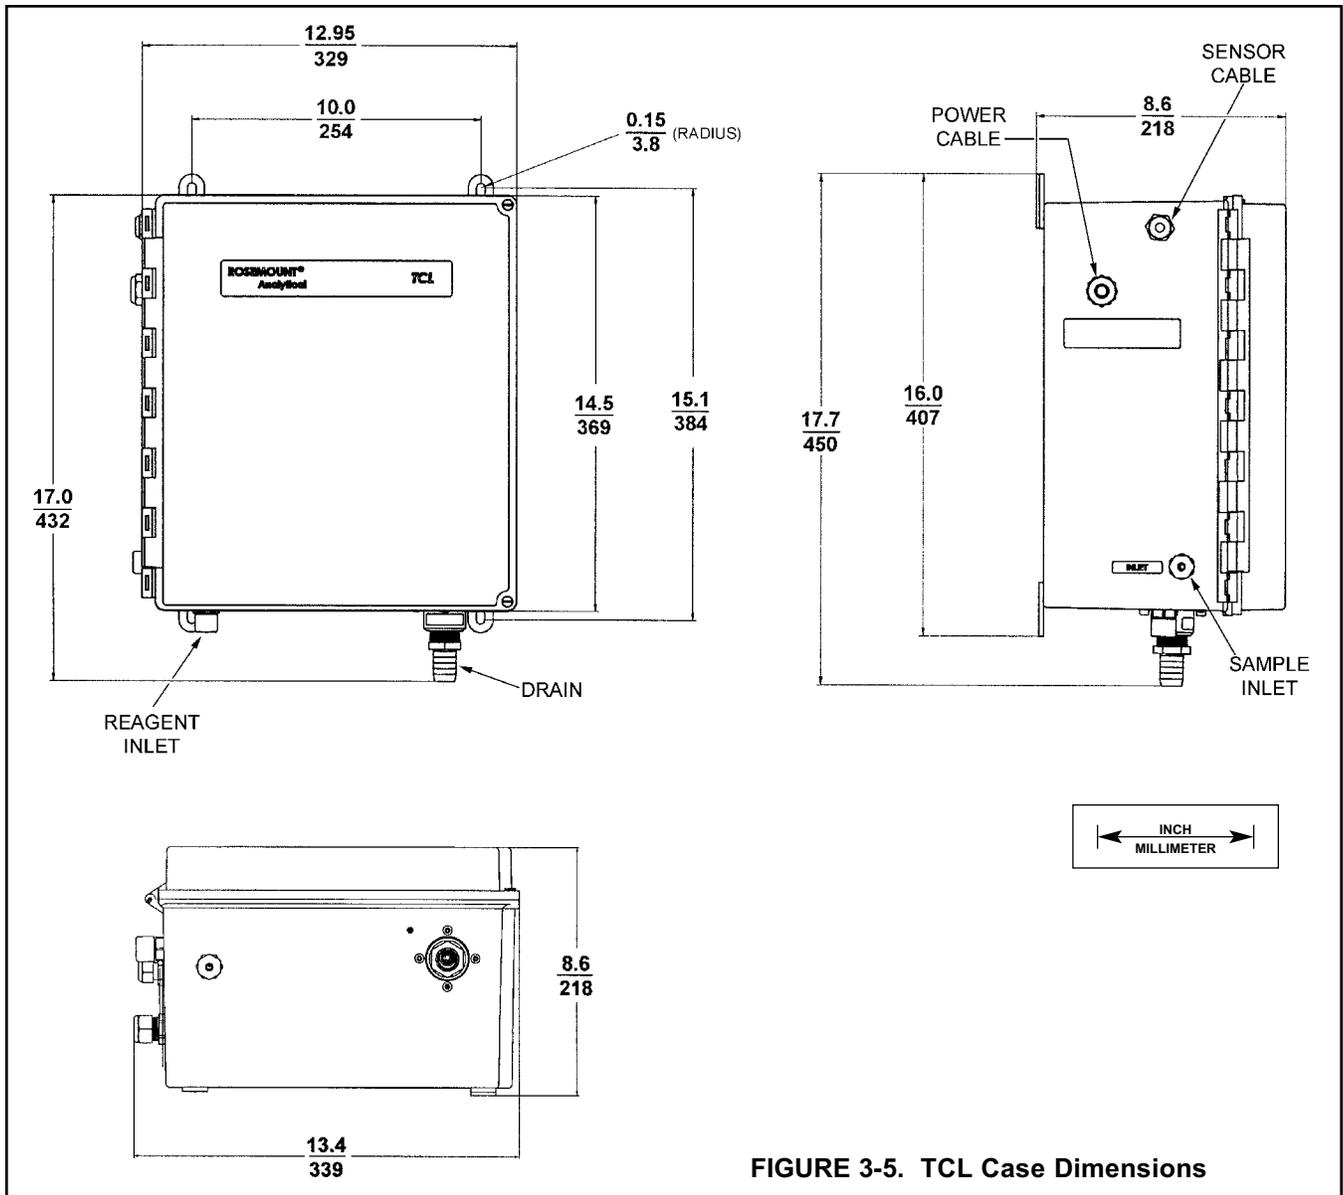

FIGURE 3-5. TCL Case Dimensions
3. Insert the power cable through the strain relief connection labeled power (see Figure 3-5). Wire the power cable to the terminal strip as shown in Figure 4-2. Do not apply 230 Vac power to a 115 Vac TCL (Model option -11). Doing so will damage the instrument.